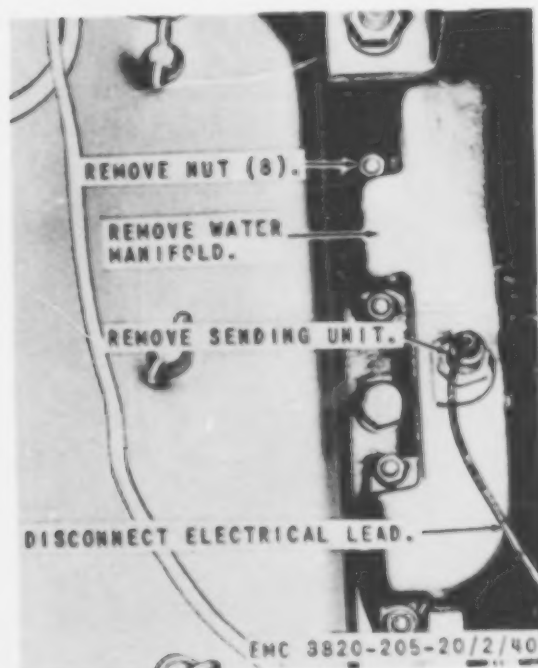

Figure 39. Water temperature gage sending unit and manifold, removal and installation.
- (2) Remove the water temperature gage sending unit from the water manifold as instructed on figure 39.
- (1) Install the water temperature gage sending unit on the water manifold in reverse of the instructions on figure 39.
- (1) Drain the cooling system (TM 5-3820-205-10/1).
- (2) Remove the thermostats and housing (par. 103).
- (3) Remove the water manifold from the engine as instructed on figure 39.
- (1) Install the water manifold on the engine in reverse of the instructions on figure 39.
- (2) Install the thermostats and housing (par. 103).
- (3) Fill the cooling system (TM 5-3820-205-10/1).